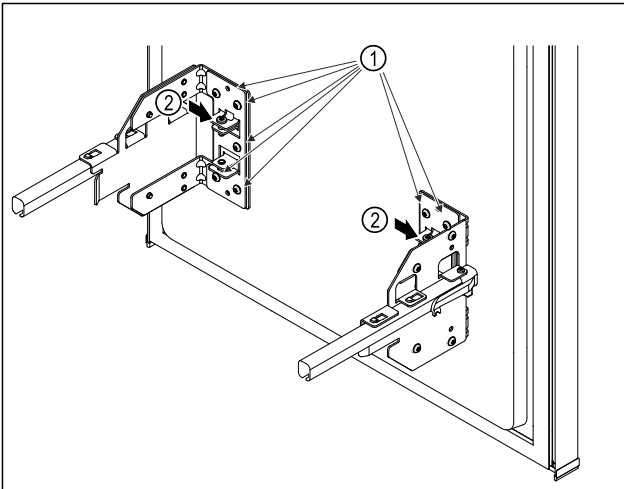

Fig. 9
- ▶ Slightly loosen the Fig. 9 (1) screws.
- ▶ Turn the screws to slide the Fig. 9 (2) pull-out cart up or down.
- ▶ Tighten the screws Fig. 9 (1) as far as they will go.